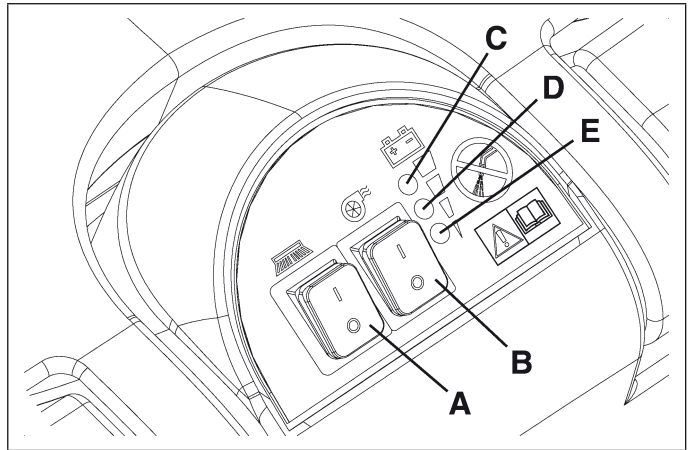

Figure 14
4. Turn the switches (A and B, Fig. 14) to the “I” position.
If the green indicator light (C, Fig. 14) turns on, the machine is ready to be used.
7. Turn the switches (A and B, Fig. 14) to the “0” position.